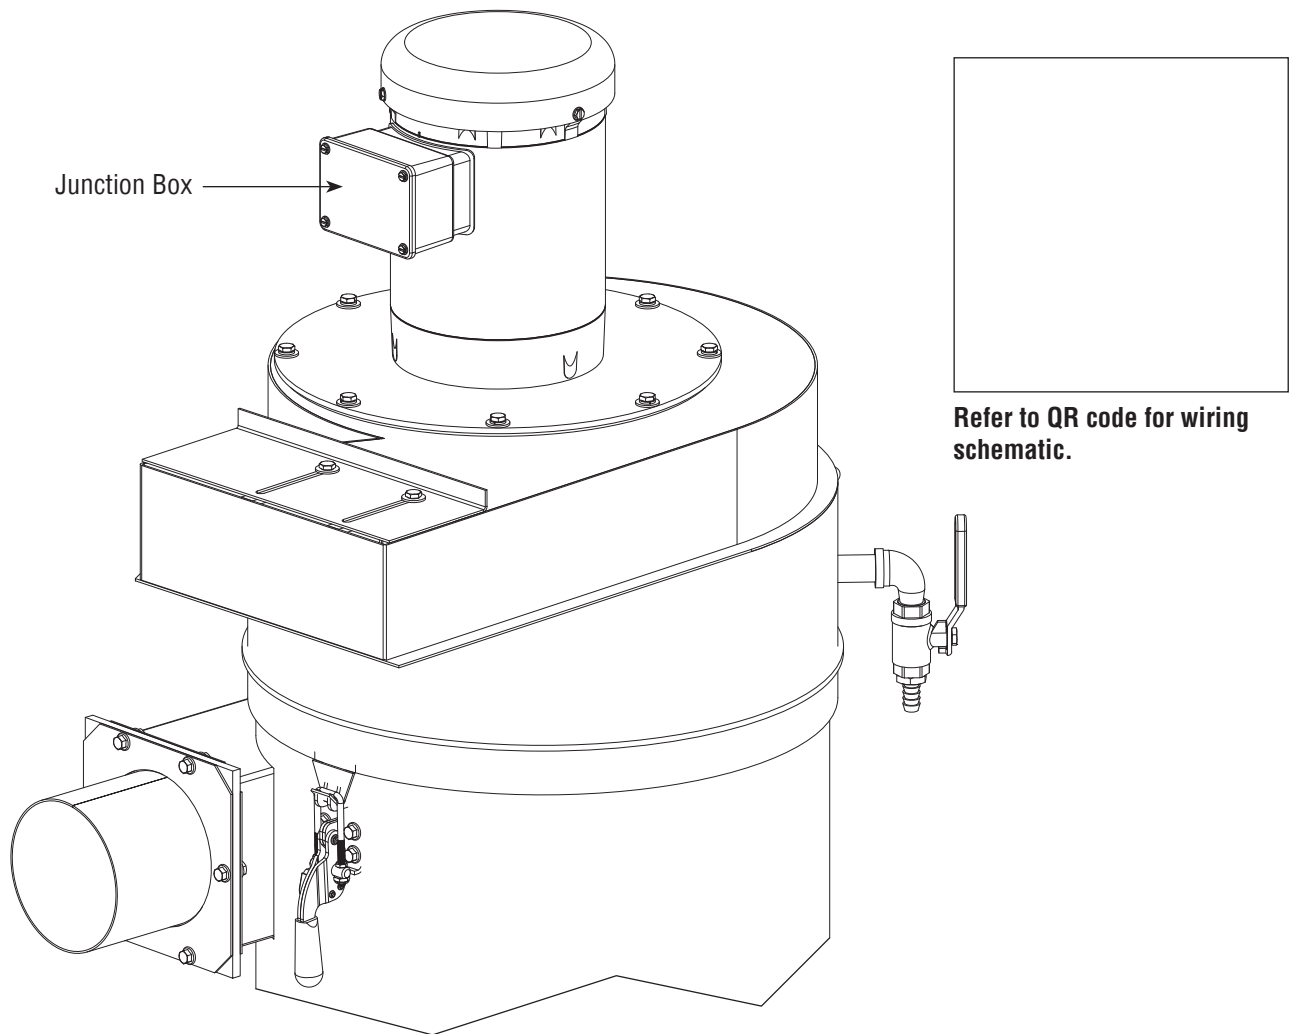

FIGURE 4
2.6.2.1 | Refer to the wiring schematic in **Figure 4**. Wire the
dust collector motor per instruction on the motor data plate to the junction box mounted on the cabinet. When wired as noted in **Figure 4**, the exhaustor motor will start when the cabinet light switch is turned ON and stop when the switch is turned OFF.